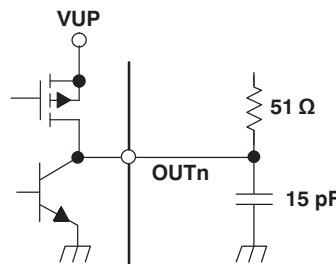
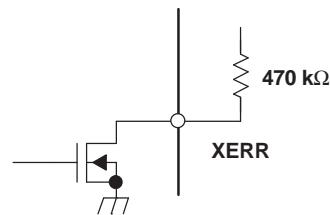

Figure 5. Test Circuit for t_{r1} , t_{f1} , t_{pd2} , t_{pd3} , t_{pd5} , t_{td}
Figure 6. Test Circuit for t_{pd4}
(2) See Figure 5. Defined as from 10% to 90%
(5) See Figure 5 and Figure 16
(6) See Figure 5, Figure 6, and Figure 16
(7) See Figure 5